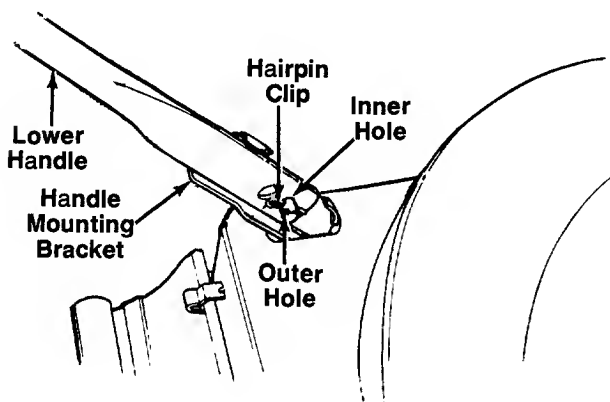

FIGURE 1.
1. Remove the hairpin clips from the holes in the handle brackets, which extend through the rear of the deck. See figure 1.
3. Using a pair of pliers, squeeze one leg of the lower handle against the handle mounting bracket. Insert the hairpin clip into the inner hole on the weld pin. See figure 1.